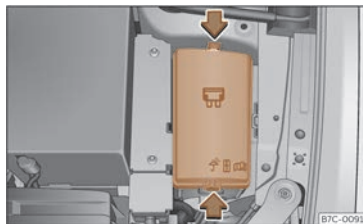

Fig. 189 In the engine compartment: lid of the fuse box.
- Press the locking tabs to unlock the fuse box cover >>> **Fig. 189**.